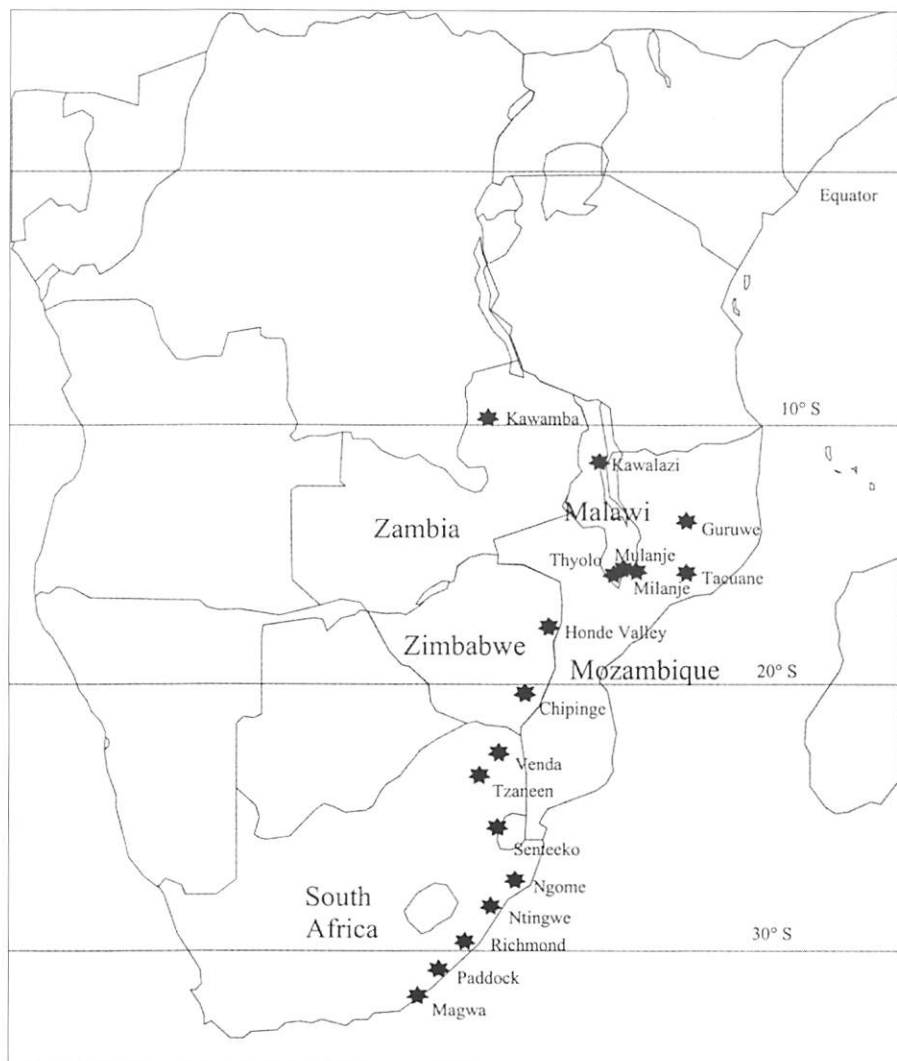

Fig.1 Tea growing areas in Southern Africa
activities. The tea growing areas in the region covered by TRF (CA) is shown in *Fig. 1*. The tea growing areas normally receive some rain almost every month, unlike many areas in the region which have a dry season from April to November. The first tea bushes in Malawi were planted in the early 1890s, and the crop has developed since then.